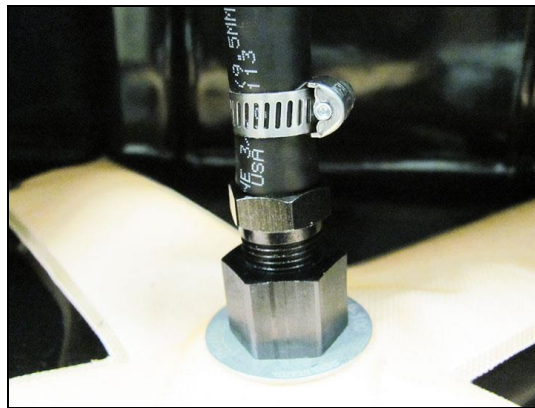

Figure 2
2. Torque the 3/8" barbed hose adapter into the HydraMat outlet (20-24 FT. LBS.) Cut the in-tank rubber hose (Kit# 26-148 includes hose, bulkhead, nut, stat-o-seals, and clamps or Kit# 26-161 2 ft. 3/8" hose only kit) to the desired length and clamp in place. (**Figure 2**)
2. Install the Earl's 3/8" tube adapter into the 16-105 HydraMat outlet and torque to 20-24 FT. LBS. Insert the tube into the compression sleeve and nut, then position the HydraMat to be in line with the (FLS) bracket. Hand tighten the nut initially to hold this position and then add another 1/2 to 3/4 turn. (**Fig. 2**)